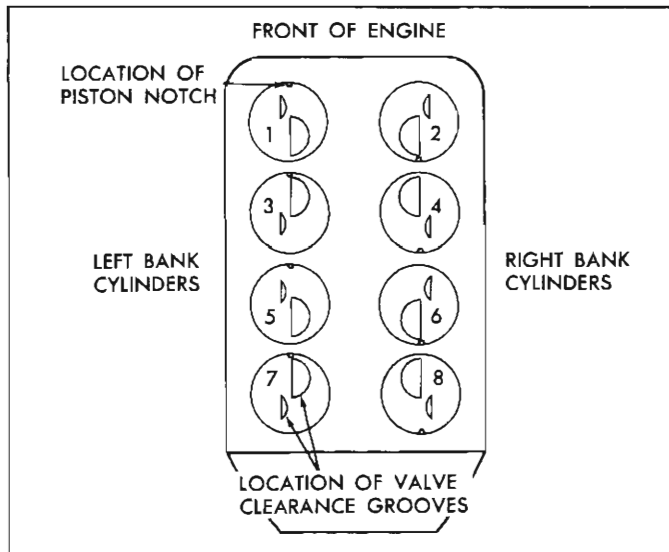
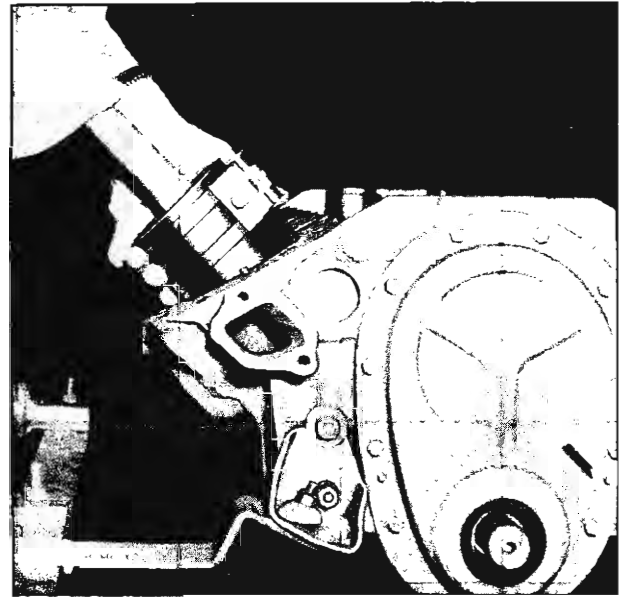

Fig. 175—Piston Installation Diagram
Fig. 176—Installing Piston Assemblies
NOTE: Modified domed pistons must be installed as shown in Figure 175.
3. Install each piston in its respective bore, using Tool J-5239 on each assembly. The side of the piston with the cast depression in the head should be to the front of the cylinder block (except with high compression pistons—see Figure 175) and the oil hole on connecting rod towards the center of the engine. Use Tool J-8037 upside down (fig. 176) to compress the ring for installation on all 348 engines except, R.P.O. 575 engines. On R.P.O. 575 engines lubricate rings and lower piston and rod assembly into bore. Squeeze piston rings into piston with fingers and slide assembly in bore, one ring at a time. Guide the connecting rod bearing into place on the crankshaft journals with the long detail of Tool J-5239.